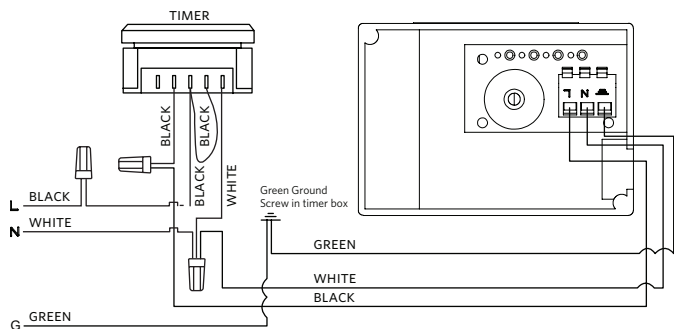

FIG. 2 Astro 2 Series circulator and 24-Hour Timer wiring diagram
- 2 Unfasten the mounting 2 screws (4) and remove the terminal box cover (3).
- 4 Connect power supply wires (black, white and green) to the timer unit and to the circulator terminals (as shown in FIG. 2).